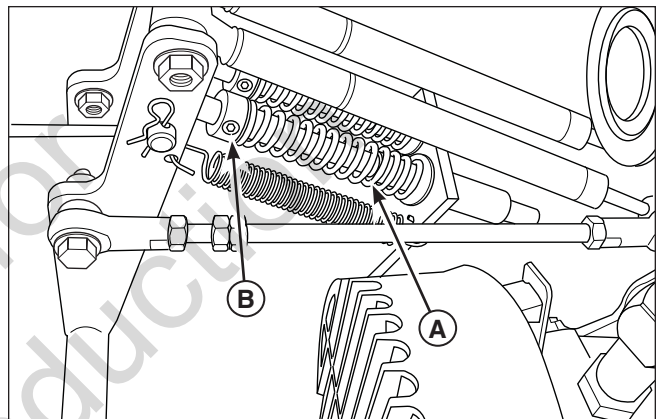

Figure 42. Return to Neutral Adjustment
1. Loosen the set collar (B, Figure 42) locked against the return spring (A).